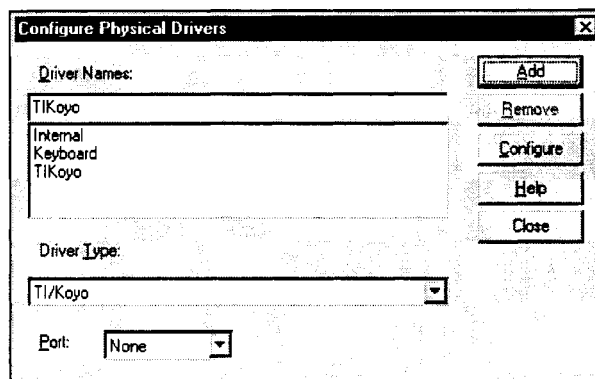

Figure 3. Configure Physical Drivers Dialog Box
2. Select the Drivers command on the Configure menu in the Application Navigator. The Configure Physical Drivers dialog box opens, as shown in Figure 3.